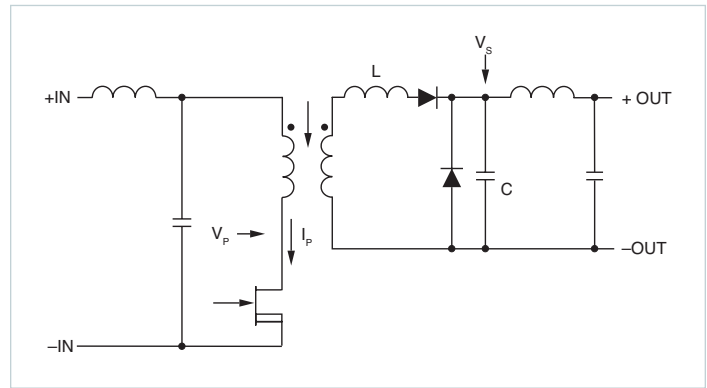

Figure 9.6 — Basic zero-current-switching converter topology (VI-200 / VI-J00)
VI-200s and VI-J00s both use the same topology, so their operation is very similar. These products are zero-current-switching converters – i.e., the current is zero when the main switch is turned on or off. While the switch is on, the current through the switch or the primary of the transformer is a half-wave rectified sine wave. Similar in operation to a resonant converter, these products are commonly referred to as quasi-resonant converters. The LC resonant frequency is fixed so the on-time of the switch is about 500ns. When the switch turns on, energy builds up in the leakage inductance of the transformer (L) and then "transferred" into the capacitor on the secondary side of the module. (C, Figure 9.6) The energy processed in each pulse is fixed and is ultimately the energy stored in this capacitor, $1/2 CV^2$. Since the energy in every pulse is fixed, the repetition rate of the pulse train is varied as a function of load to regulate the output voltage. Maximum-repetition rate occurs at minimum line, full load and is approximately twice the LC time period or $1\mu s$. If the load drops by 50%, then the repetition rate is approximately one-half of maximum (since the energy in every pulse is fixed). Therefore the pulse-repetition rate varies linearly with load, to a first-order approximation.